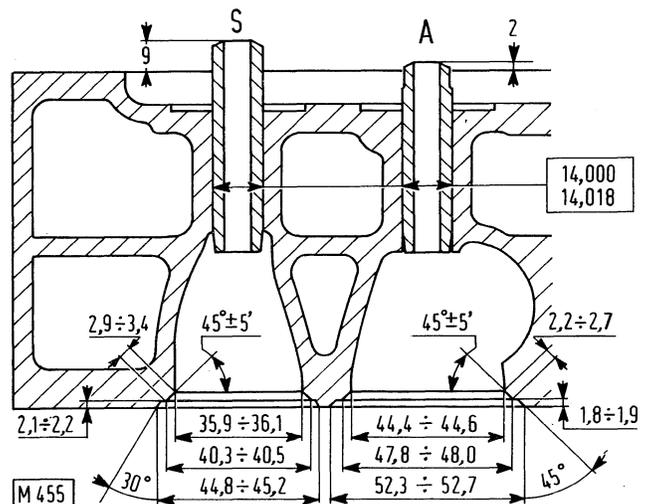

Fig. 2-9 Valve seat, Guide Housing Bore and Guide Protrusion Details.
Proper use of the tools supplied together with the universal lathe enables the seat width to be reduced so as to obtain the dimensions prescribed Fig.2-9. Should the universal lathe not be available, satisfactory results may be obtained by means of hand cutter kit 292264, noting the following points:
- When in position, the guides should protrude from the cylinder head as prescribed in Fig. 2-9.